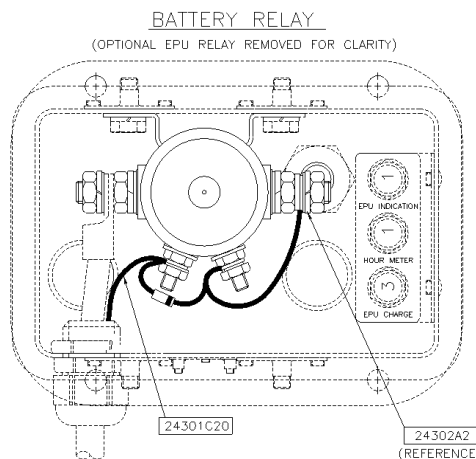

Figure 4: Battery Relay Installation
- 10.1.6 Install the new battery relay contactor (P/N: X61-0028) using the supplied hardware (bolt P/N: AN4-4A, washer P/N: NAS1149F0463P) and cable ties (P/N: MS3367-4-9). Refer to AMM DA201-C1, Chapter 24-31-00 and Figure 4.